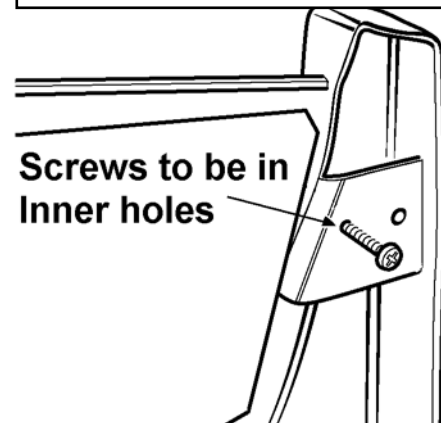

Figure 35 Casting screw position.
- Check that the two screws in the back of the fire front casting are in the inner threaded holes. If they are in the outer holes, relocate them (See figure 35)